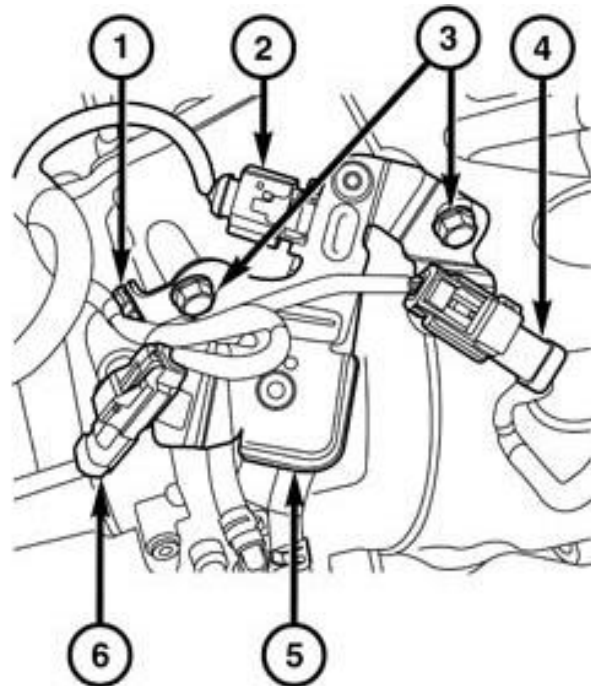

Figure 14 – EGT/CEGT Sensor Connectors
33. Remove two bolts (3) holding the DPF differential pressure sensor and bracket (5) to the transmission (Figure 14).